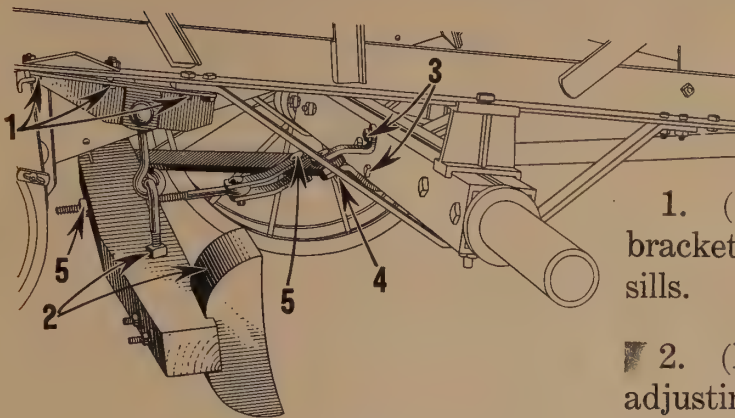

Fig. 26
1. (Figs. 26 and 27.) Bolt brake beam hanger brackets with adjusting rods to separator main sills.
2. (Figs. 26 and 27.) Secure brake beam onto adjusting rods so that brake shoes will set against face and contour of wheels.
3. (Fig. 26.) Bolt pull bar brackets to axle as shown.
4. (Fig. 26.) Secure pull bar to bracket on axle with pin and cotter.
5. (Fig. 26.) Secure beam adjusting rod to beam and to pull bar as shown.
Note: Adjustment is provided at No. 5, Fig. 26 for setting shoes **up to** or **away from** wheels as is necessary. Be sure shoes do not drag on wheels when hand lever is in its **forward position**.